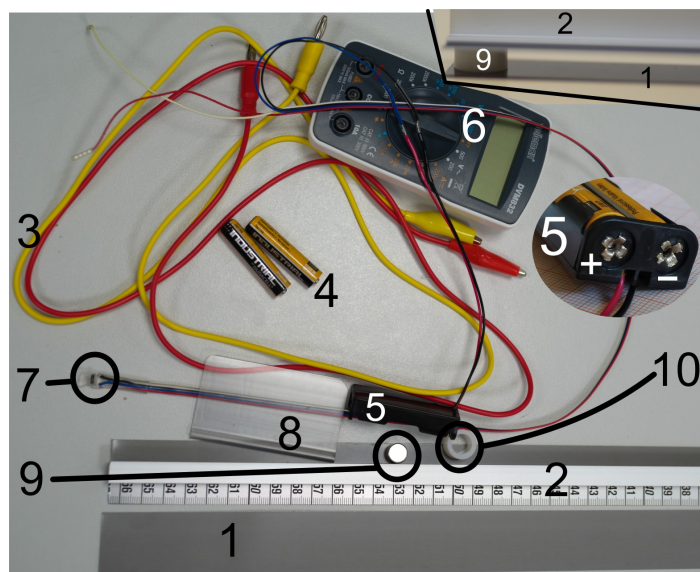

Figure 3
The following equipment is listed in figure 3:
i. (1 pt) Measure the voltage \mathcal{E} on the output leads of the battery holder using the multimeter by connecting multimeter to the leads shown as "+" and "-" in the insert of Fig 3 and switching it to 20 volt (DC) range. If the voltage is below 3.0 V, you may ask for replacement batteries.
Connect the blue and black wires of the magnetic sensor to the batteries in the battery holder, and the red and white wires to the multimeter. If the plastic clamp is put around the four wires near the sensor as shown if Fig 3, the sensor is kept in such a position that vertical magnetic field will be measured. Switch on the multimeter in 200 millivolt (DC) range, put the sensor onto table far away from the magnet and the ferromagnetic strips, take the reading of the multimeter V_0 , and write it down. Subtract this voltage reading from all the subsequent readings (to compensate for the zero offset of the sensor, and for the magnetic field of the Earth).
Put the stand-alone ferromagnetic strip onto table; place the magnet and the plastic cylindrical spacer onto it, as close as possible to its endpoints (see the insert of Fig 3), and the reinforced strip onto the whole assembly so that a gap of constant